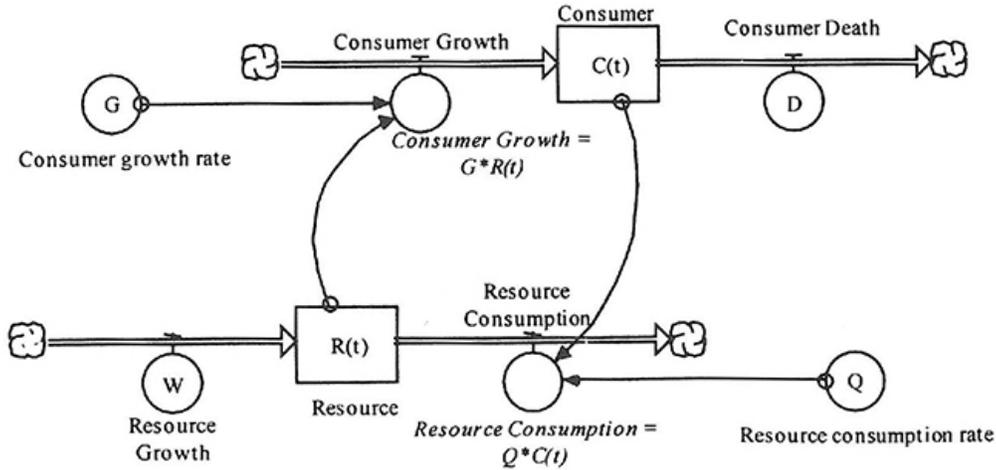

FIGURE 2.19. System diagram for a simple oscillating system.
Figure 2.19 gives a simplified example of an oscillatory system. Study this diagram to confirm that it includes the features described in the previous
The oscillatory system given here will reach a steady state whenever  $\frac{dR(t)}{dt} = \frac{dC(t)}{dt} = 0$ . This occurs whenever both reservoirs are equal to their equilibrium values given in Equations (2.29) and (2.30). Hence, the steady-state solution to the simple oscillatory system in Figure 2.19 is given by
25. Assume that time is measured in hours in Figure 2.19, that the *Consumer* reservoir is expressed as a number of organisms, and that the *Resource* reservoir is expressed as the number of generic resource units. Specify the units for all the other quantities in the model.
26. Use STELLA® to build the model in Figure 2.19. Populate the model with the values specified later. Make a graph showing both the *Consumer* and the *Resource* reservoirs over time. Run the model for 25 years, and answer the following questions. The graph of the *Consumer* and *Resource* reservoirs should exhibit simple oscillatory behavior. [Note: The oscillatory model has a complicated enough behavior that we must take special care to avoid serious round-off errors in STELLA®. This is done by using a very small time step and by using a more sophisticated numerical algorithm. You can make these changes by selecting **Time Specs** under the **Run** menu. The value of **DT** specifies the time step. Change **DT** to **0.0625** hours. In addition, instruct STELLA® to use the **Runge-Kutta 2** method of integration in the **Time Specs** window of STELLA®.]